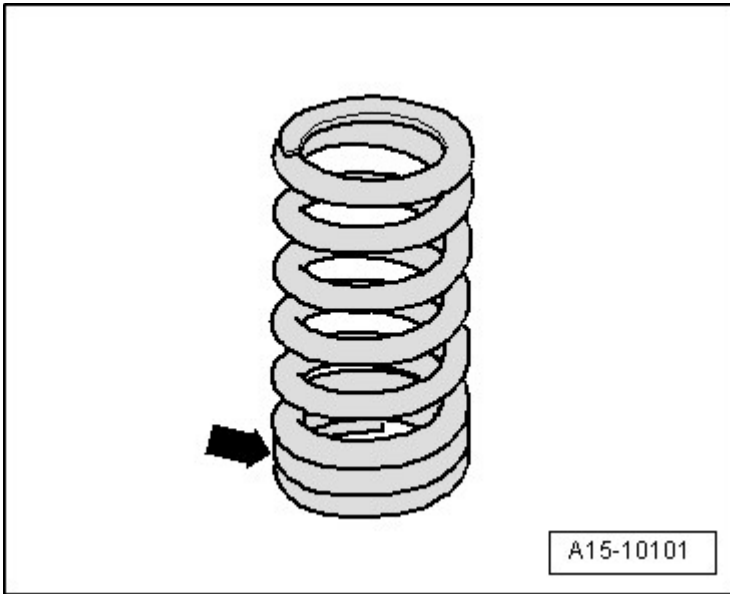

Fig. 19: Identifying Tight Spring Coils
- Installed location **Fig. 19**